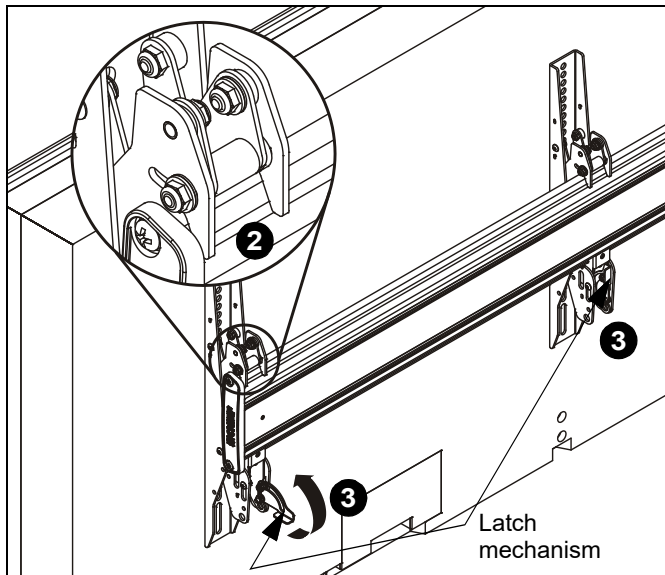

Figure 28
2. While supporting both sides of display, lower display onto one side of mounting rail, hooking top of interface brackets onto front of mounting rail. (See Figure 28)
3. Raise the latch mechanism on both interface brackets to lock bracket in place. (See Figure 28)
display onto mounting rail, hooking top of interface brackets onto front of mounting rail. (See Figure 28)